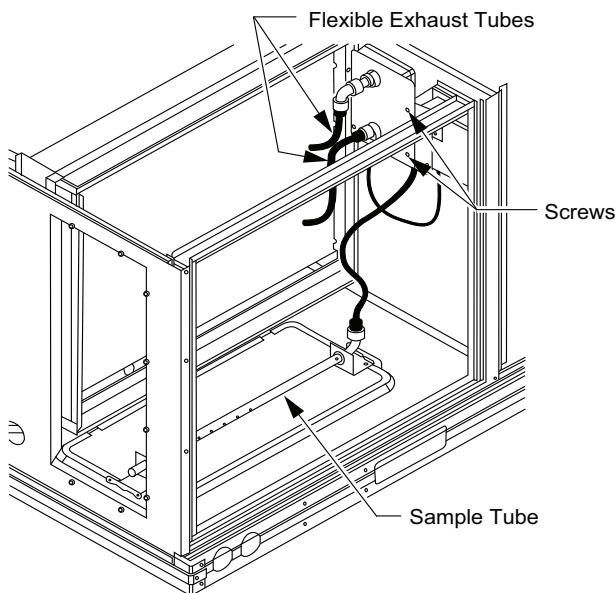

Fig. 44 — Return Air Smoke Detector Shipping Position
1. Unscrew the 2 screws holding the return air sensor detector plate. See Fig. 44. Save the screws.